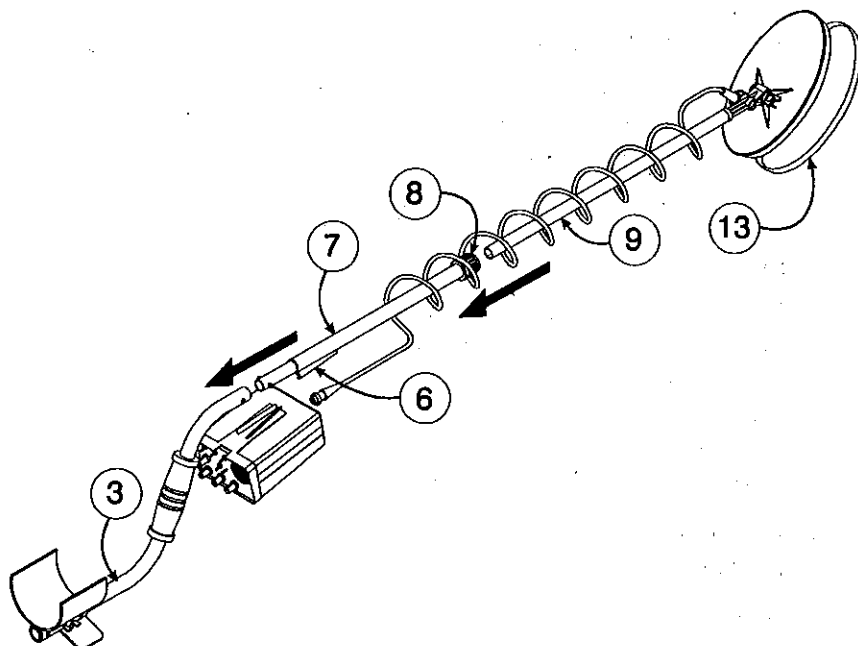

Figure 4 — Completing the Shaft Assembly
- a) Slide the intermediate shaft (7) into the upper shaft. The black "V" clip (6) must be facing down along the foam handgrip section of the upper shaft (see Figures 4 and 5).